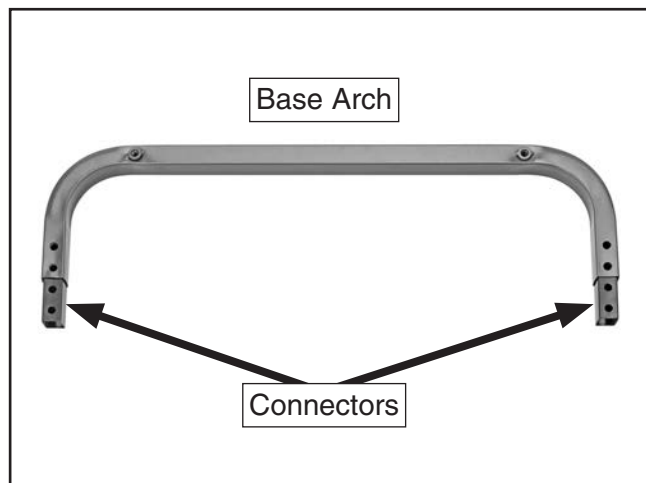

Figure 2. Connectors installed in base arch.
1. Locate base arch (see **Figure 2**) and install (2) connectors.